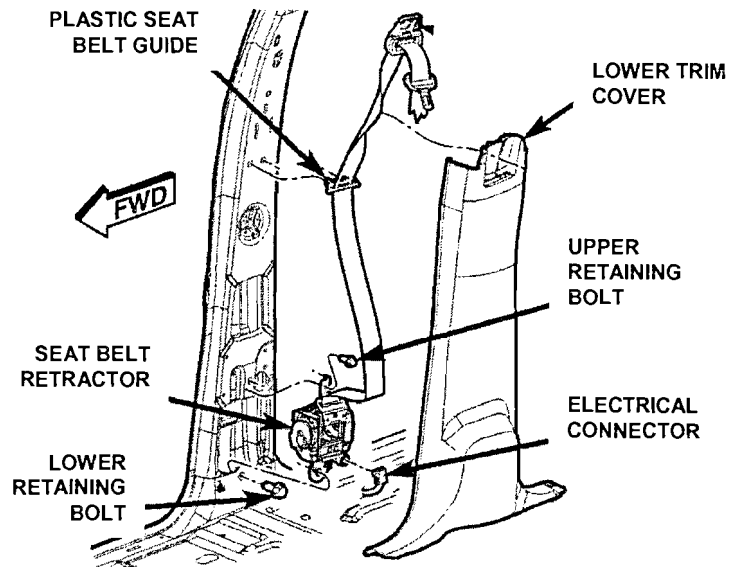

Figure 3
11. Remove the lower trim cover to expose the seat belt retractor (Figure 3).
12. Remove the plastic seat belt guide from the “B” pillar (Figure 3).
13. Disconnect the electrical connector at the seat belt retractor (Figure 3).
14. Remove the upper and lower seat belt retractor retaining bolts (Figure 3).
20. Connect the electrical connector at the seat belt retractor (Figure 3).
21. Install the upper plastic seat belt guide onto the “B” pillar (Figure 3).
22. Install the lower trim cover (Figure 3).